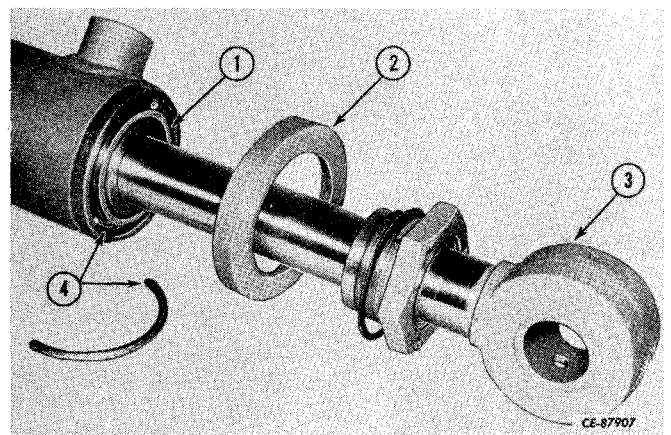

Figure 11-12
Extend the rod (3, Fig. 11-12) and slide the end cover (2) down the rod. Push the cap assembly (1) in slightly and remove the three piece ring (4).
Slide the cap assembly (1, Fig. 11-12) into the cylinder. Be sure the "O" ring and back-up ring on the outside of the cap are correctly positioned. Install the three piece ring (4). Manually extend the rod sharply several times, driving the piston against the cap assembly. The cap should in turn, seat the two piece lock